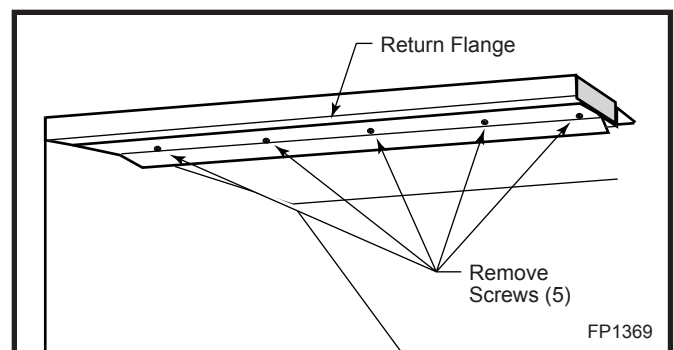

Fig. 39 Remove five (5) screws securing heat shield in place.
1. Using a Phillips or Robertson screwdriver, unfasten the two (2) screws holding the fettle to the burner assembly. With a wrench, remove the front burner tube by unfastening the two (2) nuts that secure the burner tube to the front of the burner assembly.
2. Using a Phillips or Robertson screwdriver, remove the heat shield located toward the front top of the fire box by unfastening the five (5) screws that secure the heat shield in place. (Fig. 39)